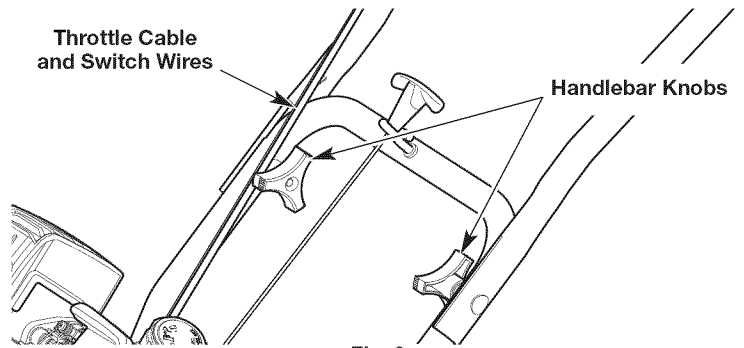

Fig. 3
1. Loosen the two knobs on the inside of the handlebars (Fig. 3).
NOTE: Take care not to pinch the throttle cable or switch wires when positioning the handlebar (Fig. 3).
3. Tighten the knobs to secure the handlebars in place (Fig. 3).